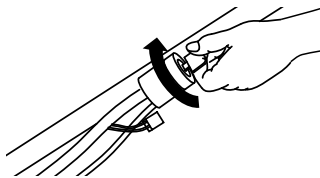

Figure 15
2. Insert the ignition key into the ignition and turn it (Figure 15).